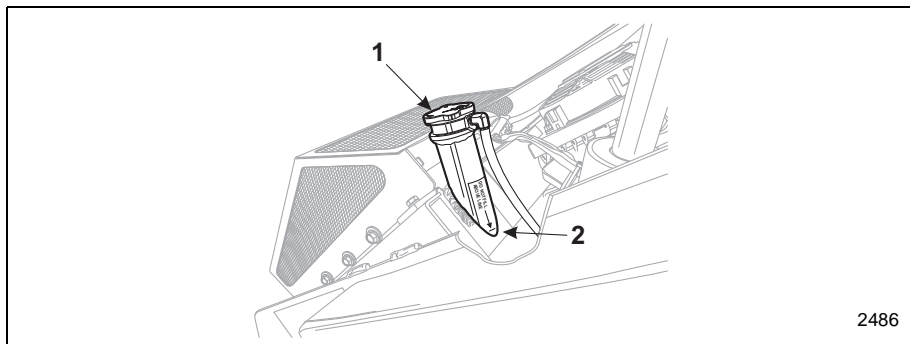

Figure 4-27 Radiator Fill Level
- e. Close the petcock and refill the radiator with a 50-50 mix of radiator coolant and water, according to the specifications in the Engine Manual. Make sure to fill the radiator only to the line indicated on the decal located on the filler neck (Item 2, **Figure 4-27**).